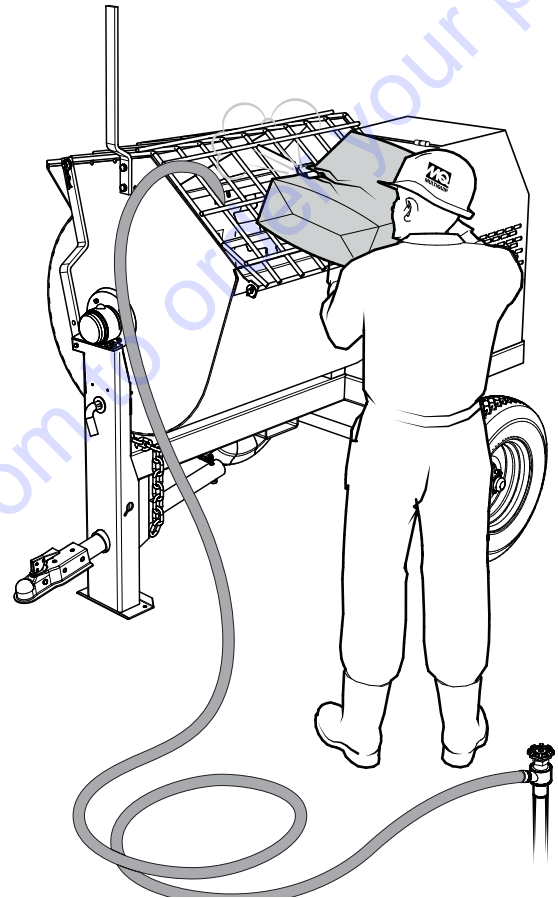

Figure 26. Filling Mixing Drum
3. Add a small amount water to the mixing drum (Figure 26).
4. Lift the mixing bag compound (Figure 26) onto the steel safety grate over the **bag cutter** and let the contents fall into the drum. Add more water if desired and mix compound to desired consistency.